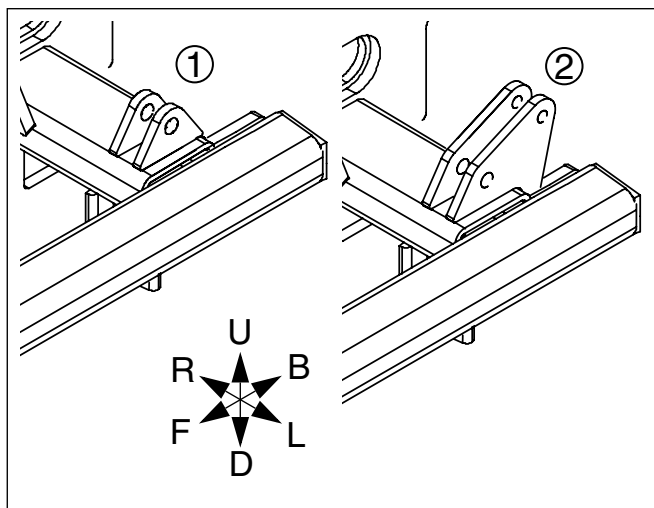

Figure 4
Refer to Figure 4
12. Compare the existing ear mounts on your drill to those illustrated in Figure 4.